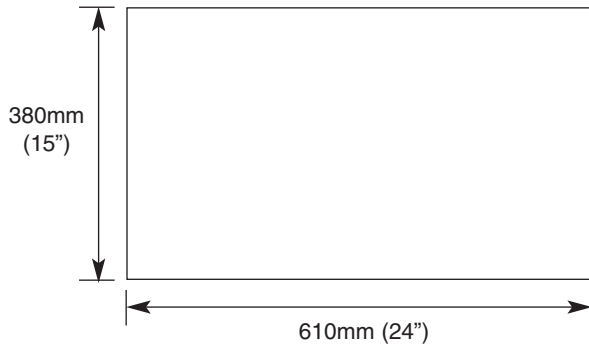
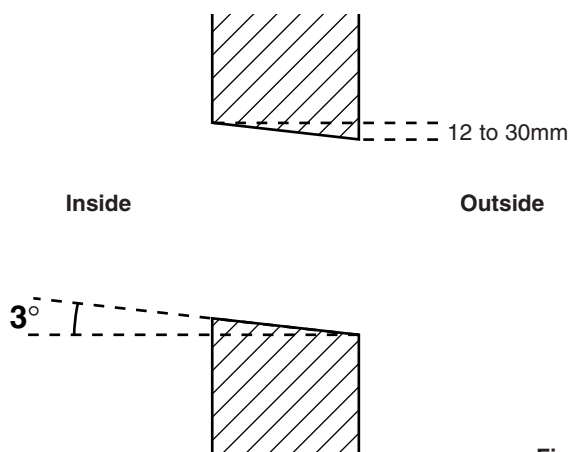

Fig. 8
Fig. 9
1. Working from the inside, mark out the position of the hole to be cut. This should be 610mm (24") x 380mm (15") (Fig. 8).
4. Estimating the wall thickness, move to the outside and mark the position of the hole to be cut in the outer wall, using the centre hole as a guide. Again, this should be 610mm (24") x 380mm (15") (Fig. 8). However, to allow for condensate drainage, the hole must be marked between 12mm-30mm (0.5"-1.25") LOWER than the inner hole (Fig. 9). This will produce a nominal 3° slope towards the outside (assumption of installation into wall thickness dimension between 230mm - 610mm (9"-24")).